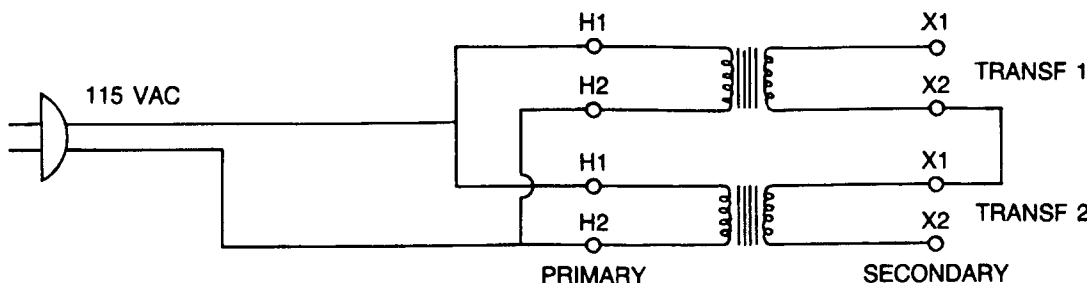

Figure 11
- a. Connect the H1 leads together and then connect the H2 leads together (see Figure 11).
- b. Connect the X2 lead of Trans #1 to the X1 lead of Trans #2 (see Figure 11).
- a. Apply 115 V AC across H1 and H2 (see Figure 11).